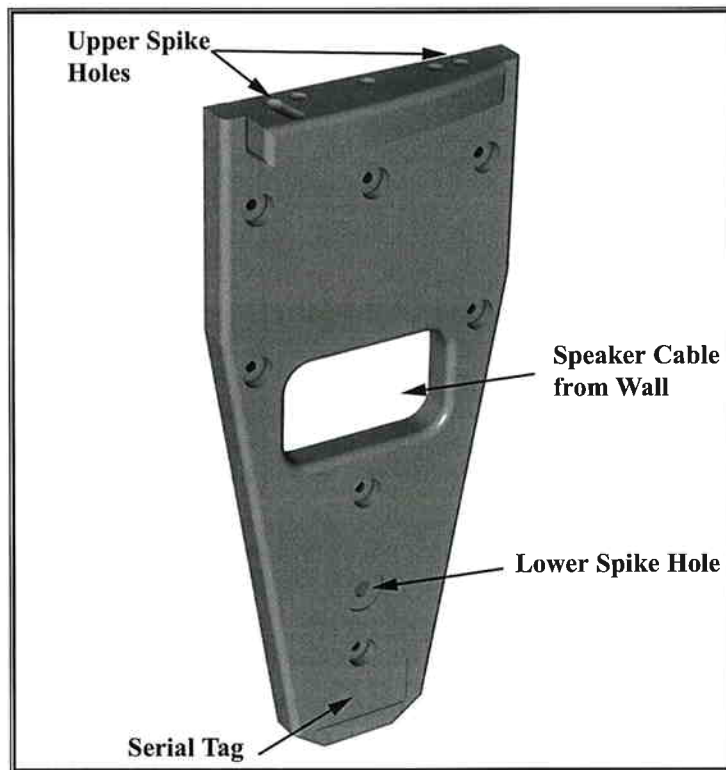

Figure 5- Surround Mounting Bracket
3. Take a moment familiarize yourself with the mounting bracket. Note the locations for mounting hardware, spikes, instruction plate and speaker wire (see Figure 5) below. Notice that with some advanced planning you can conceal your speaker cable by feeding it through the mounting bracket.
Note: There are two geometries of the Mounting Brackets, clockwise (CW) and counter clockwise (CCW - See Figure 5 below). They refer to the direction of adjustment rotation possible for the Surround speakers. Usually you will want to rotate the speakers toward the listening position.